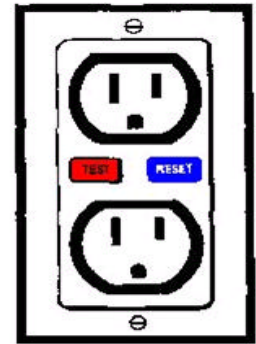

FIGURE 3 GFCI
Many of the cords for today’s appliances contain three-pronged plugs, which can cause problems when an older home does not have three-pronged outlets for these grounded plugs. In the case of older homes, owners often replace two-pronged, ungrounded outlets with three-pronged, grounded type outlets in order to establish appropriate outlets for appliances that have cords with three-pronged plugs. However, in some cases, owners may replace two-pronged, ungrounded outlets with the three-pronged, grounded type outlets without the necessary rewiring that adds a ground wire to the newly installed, grounded type outlet. Three-pronged, grounded type outlets should not be substituted for ungrounded outlets unless (1) a ground wire is connected to the outlet, or (2) a Ground Fault Circuit Interrupter (GFCI) Breaker or outlet protects the outlet. (Figure 3, outlet option) Installing a new ground wire may require a licensed electrician to install a new wire to the circuit breaker box and may be prohibitively expensive. A more cost-effective method is to protect the outlet with a GFCI, which provides protection to the outlet. If the GFCI senses a difference in current flow between the hot and the neutral terminals, it shuts off the flow of current to the outlet.